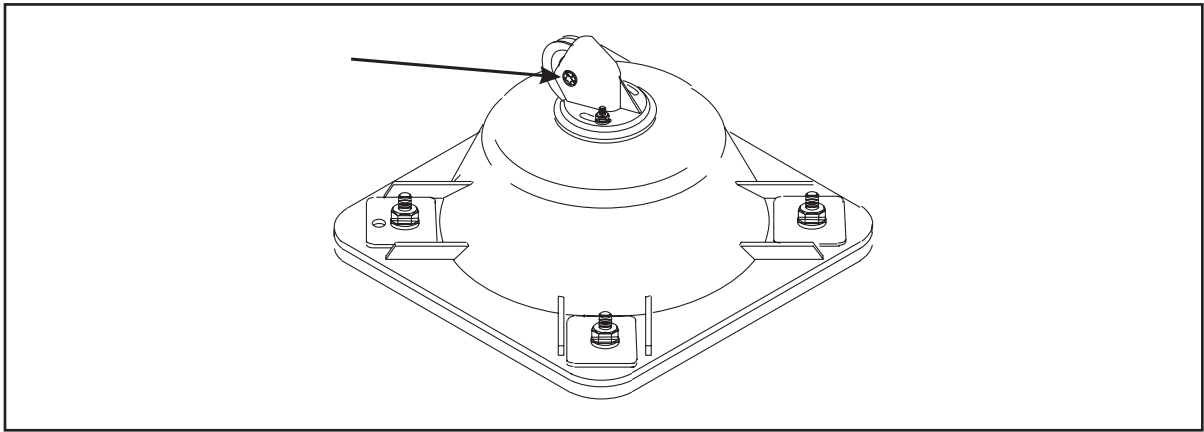

Figure 5-9. Grease String Roller
- Apply grease to the string roller shaft. Refer to *Figure 5-9*.